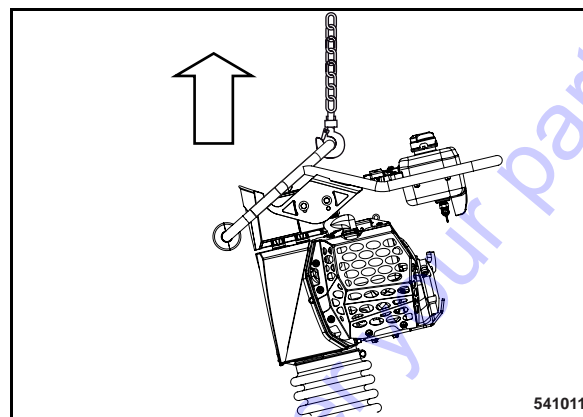

Fig. 27
- For loading the machine attach the lifting gear only to the cross strut of the steering handle (Fig. 27).